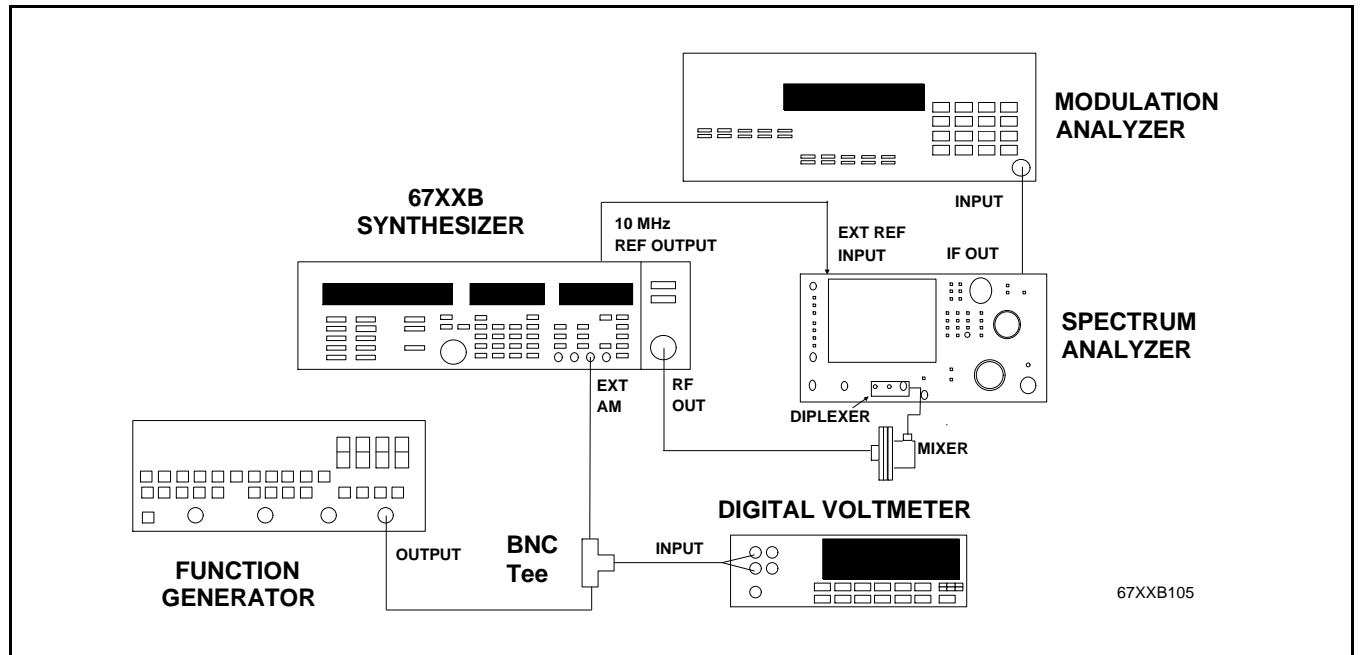

Figure 2-18. Equipment Setup for AM Modulation Tests (20 to 60 GHz)
1. Connect the equipment, shown in Figure 2-18, as follows: